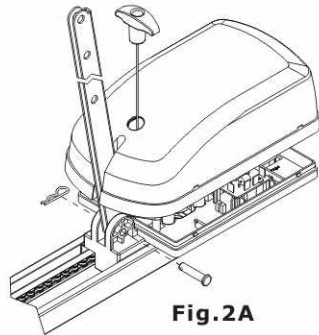

Fig.2A
- Insert the Straight Towing Arm through the slot in the cover (Fig.2A)
- Attach the arm to the Drive Unit using the short clevis pin and spring clip provided (Fig.2A) and then replace the cover.